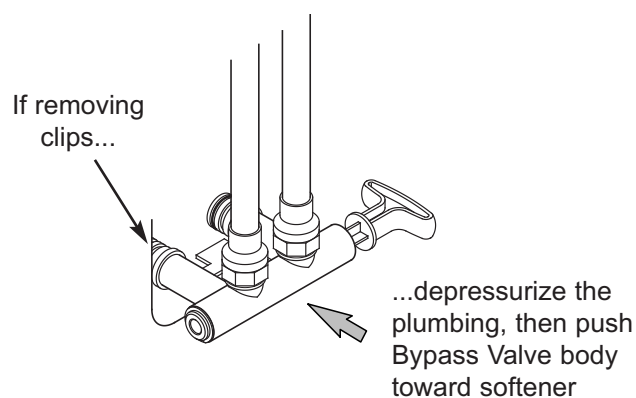

FIG. 15
7. Check for leaks around clips at softener's inlet and outlet. If a leak occurs at a clip, depressurize the plumbing (turn off the water supply and open faucets) before removing the clip. When removing clips at the softener's inlet or outlet, push the single bypass valve body toward the softener (See Figure 15). Improper removal may damage clips. Do not reinstall damaged clips.